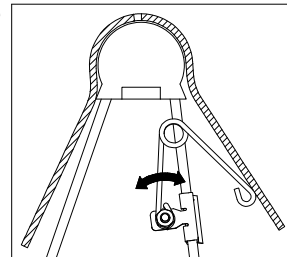

Figure F1: Cutaway view of
2. **Set coupler angle.** Adjust the resting angle of your coupler plate by rotating the spring on the driver side pivot arm. Pulling the top of the spring away from the cab will increase the angle of the coupler plate. Set the angle of the coupler so that it will tilt away from the cab when coupling, see Figure F1. Tighten the 1/4" nut once the spring's orientation is set.